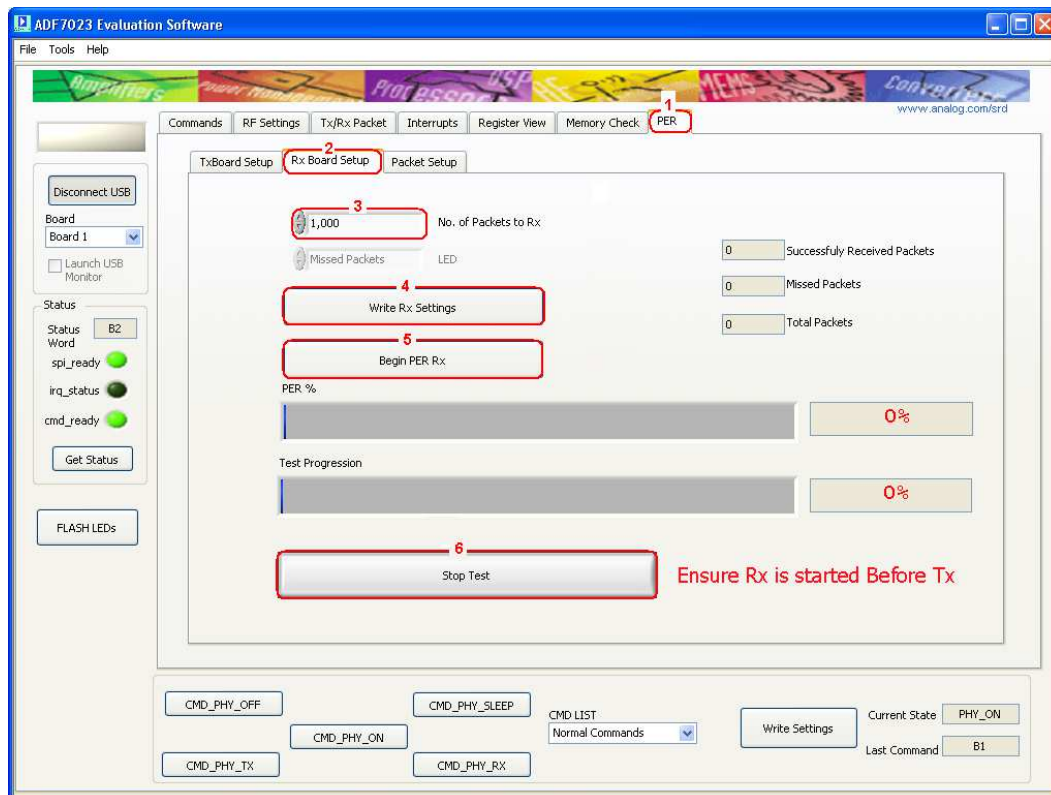

Figure 39
1. Once all of the Receiver and packet parameters are setup correctly (as in Rx Setup in Packet Mode section) then select the “**PER**” Tab. (Figure 39 point (1))
2. Select the “**Rx Board Setup**” Tab (Figure 39 point (2))
3. Set the number of packets to be received, “**No. of Packets to Rx**” (Figure 39 point (3))
4. Write these settings to the uC by clicking “**Write Rx Settings**” (Figure 39 point (4))
5. To begin the test and put the receiver into Rx click “**Begin PER Rx**” (Figure 39 point (5))
6. If at any time you wish to terminate the test manually press “**Stop Test**”. (Figure 39 point (6))